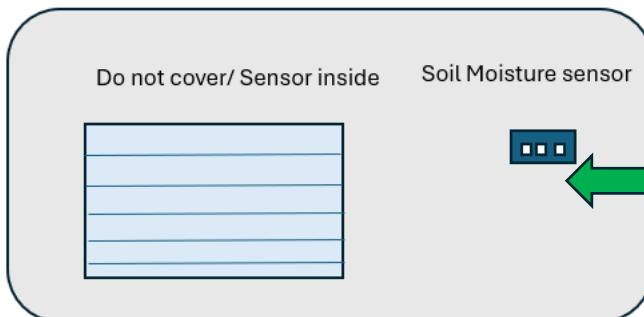

Figure 5. Connecting soil moisture sensor cable
- Connect sensor cable to device (Figure 5)